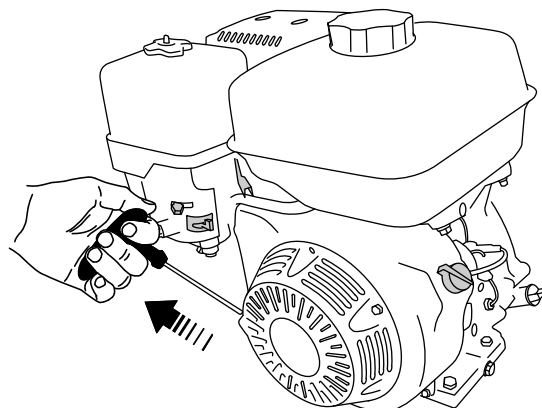

Figure 39
6. Pull the recoil-start handle lightly until you feel resistance, then pull the handle briskly. Return the starter handle gently (Figure 39).